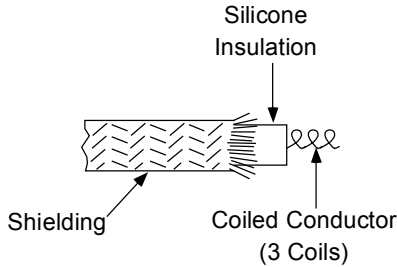

Figure 3.3.2G
- 4. If necessary, trim coiled conductor so that only 3 complete coils protrude past silicone insulation (See Figure 3.3.2G).